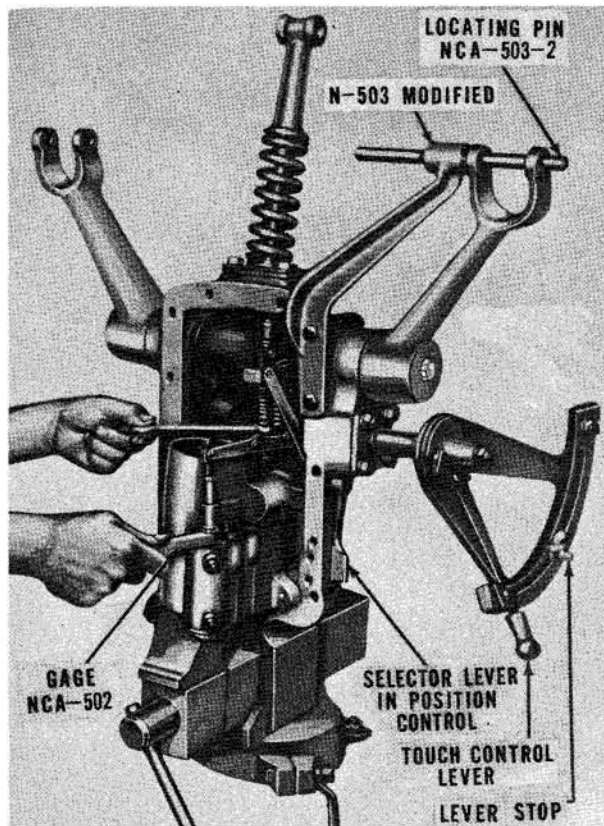

Fig. FO562A—Method of setting and adjusting the linkage for implement position control.
**90. IMPLEMENT POSITION.** To make this adjustment, first adjust the main control spring as outlined in paragraph 88 and the draft control linkage as outlined in paragraph 89. Both of these adjustments must be made before the position control linkage can be adjusted. With cover mounted in vise and rockshaft correctly positioned as outlined in paragraph 89, move selector lever to position control (parallel to gasket surface of cover) and touch control lever against lower stop of quadrant as shown in Fig. FO562A.